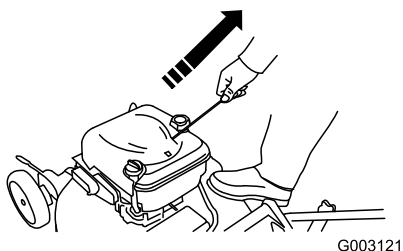

Figure 17
- Pull the recoil starter at the engine (Figure 17).